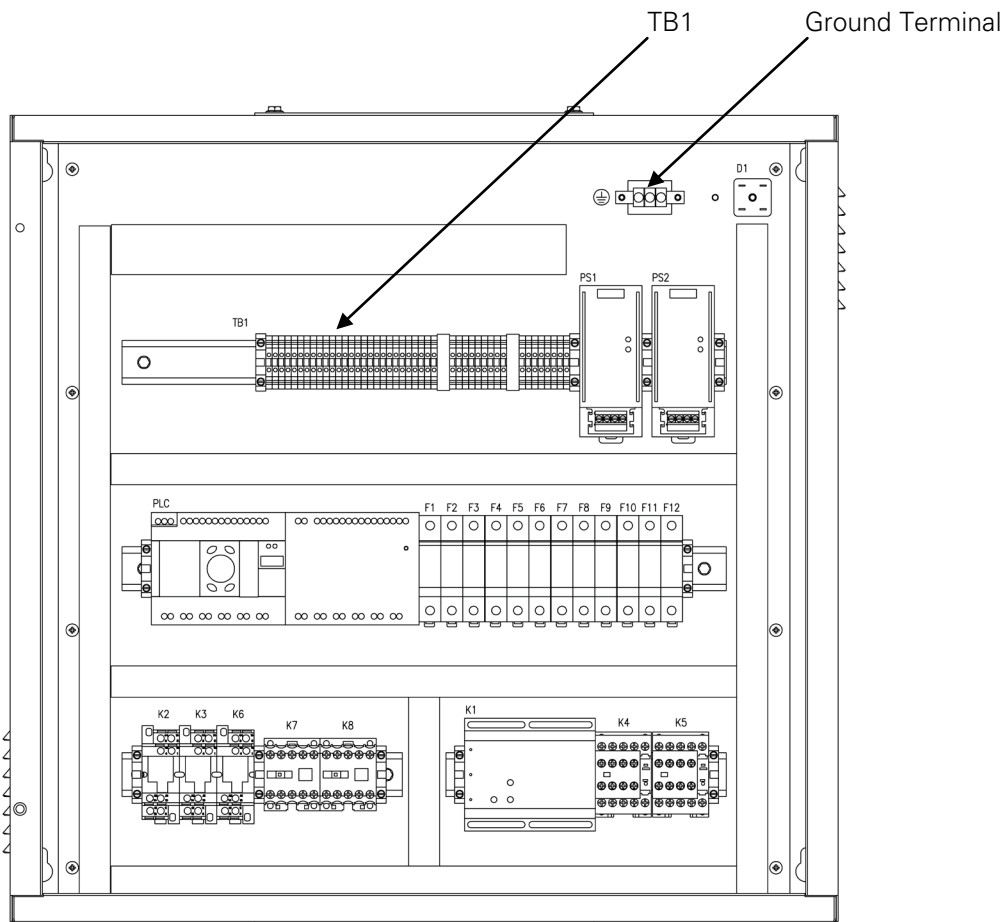
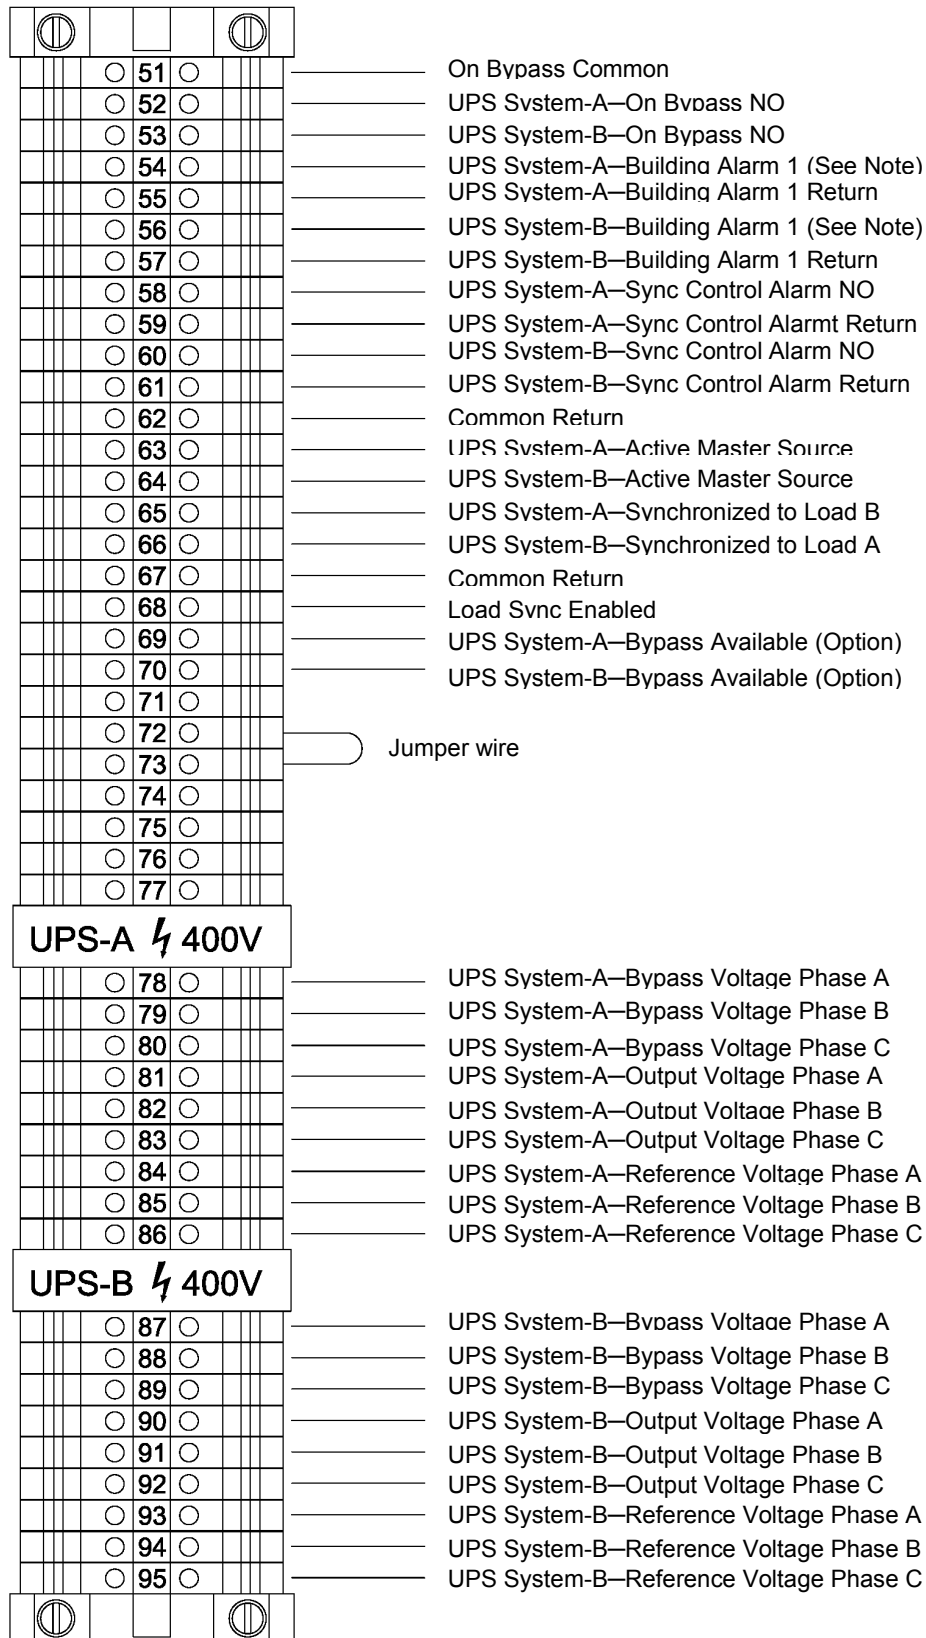

Figure 3-6 Eaton Sync Control Typical Control Wiring Termination Locations
Figure 3-7 Eaton Sync Control TB1 Terminal Block Detail when Used with 93PM
9. Complete all control wiring interconnections using Table 3-4 on page 19 or Table 3-5 on page 20 for wiring requirements. Figure 3-6 on page 21 shows the Eaton Sync Control TB1 terminal block and ground terminal locations. Figure 3-7 on page 22 shows the TB1 terminal block wiring detail.
10. Verify the jumper is installed between Eaton Sync Control terminal TB1-72 and TB1-73 (see Figure 3-7 on page 22).
Figure 3-7 on page 22 shows the TB1 terminal block wiring detail.